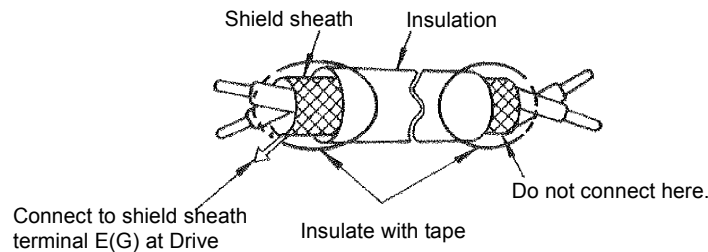

Fig 2.8 Preparing the Ends of Twisted-pair Cables
4. Use twisted-pair or shielded twisted-pair cables for control circuits to prevent operating faults. Prepare cable ends as shown in *Fig 2.8*.